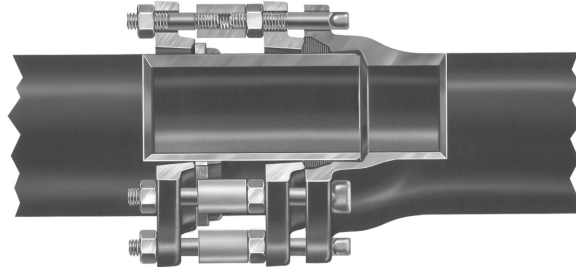

Figure 6
7. Once the desired EQ position has been reached, remove the hydraulic rams and split restraining gland. After removal of the restraining gland ensure the pipe coating has not been damaged during extension. If coating damage has occurred during extension, repair coating per the AMERICAN coating repair procedure. The completed joint pictured in Figure 6 is in the intermediate midpoint position* as previously described, with the first assembly stripe of the opposite Earthquake joint fully inserted and flush with the bell face, and the second stripe is fully exposed.